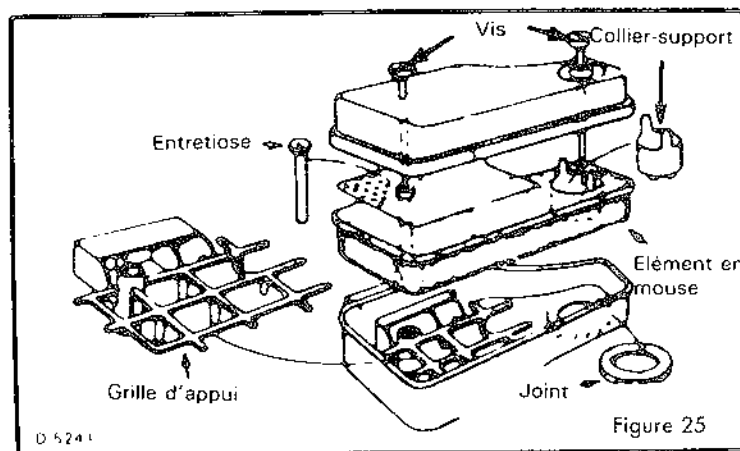

Figure 25
4. NETTOYER LE FILTRE À AIR figure 25